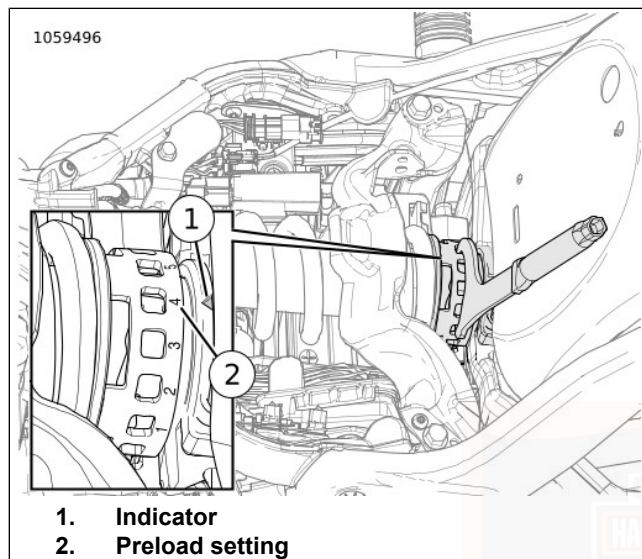

Figure 16. Preload Adjustment Cam
1. **Cam style:** See Figure 16.